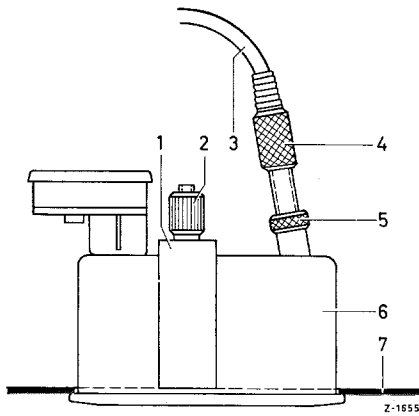

Fig. 27-23/2
The selector lever indication is adjusted in selector lever position "N." The bowden wire (3) from the shift tube to the selector lever indication can be adjusted lengthwise by means of a knurled nut (4) on selector lever indication (Fig. 27-23/2). For this purpose, loosen counter nut (5) and tighten again upon adjustment.
Unscrew kickdown switch (4) from cover plate (2) of jacket tube in the direction of the engine compartment after loosening counter nut (3) (Fig. 27-23/4). Check accelerator pedal and linkage for easy operation and make operable, if required. The accelerator pedal should move easily from partial throttle and full throttle position into idling speed position.